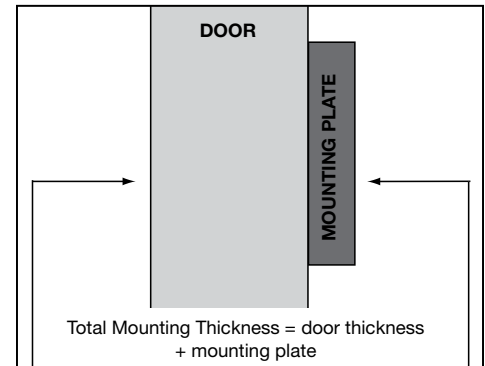

FIGURE 1
4. Measure total mounting thickness (door thickness + mounting plate). (Figure 1.)